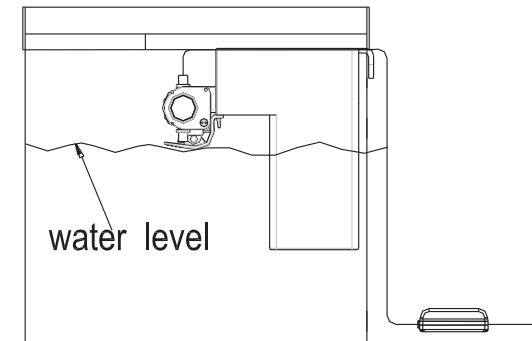

Fig.1
3. Clip this UV to the water outlet of Power filters to start operation (Refer to Fig.1)